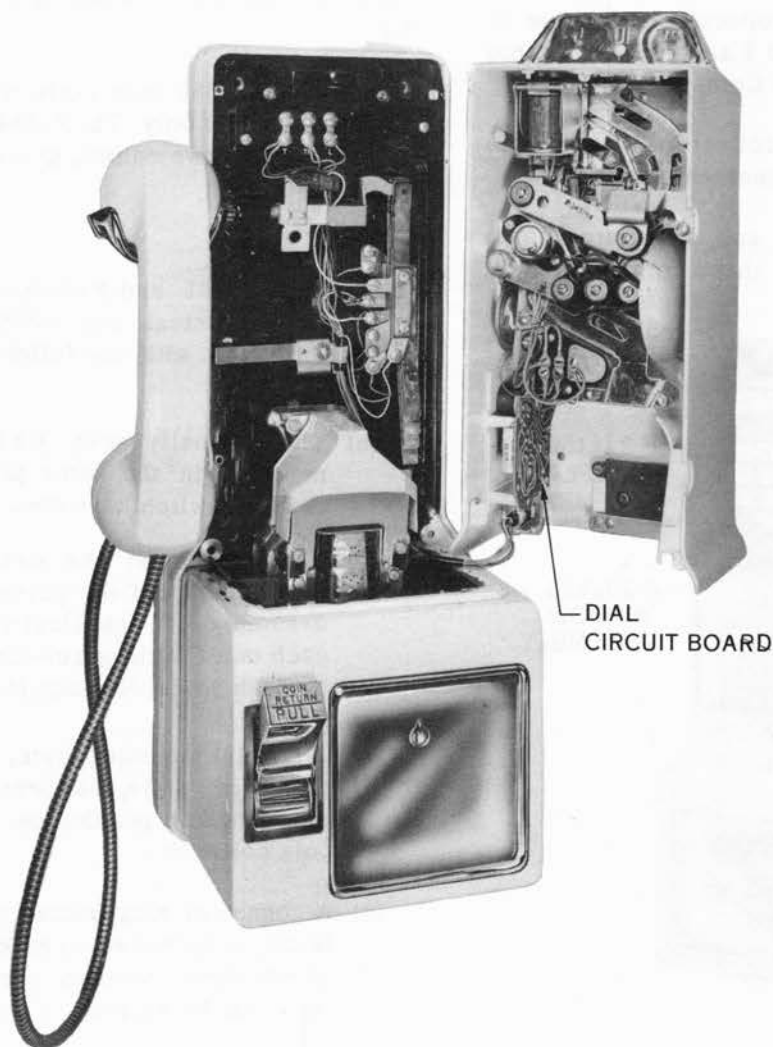

Fig. 2 - F-55880 Coin Collector, Interior
- (b) The pushbutton and switching assembly of the dial and the printed wiring board assembly are physically separate from each other, although electrically connected through soldered leads (Fig. 2).